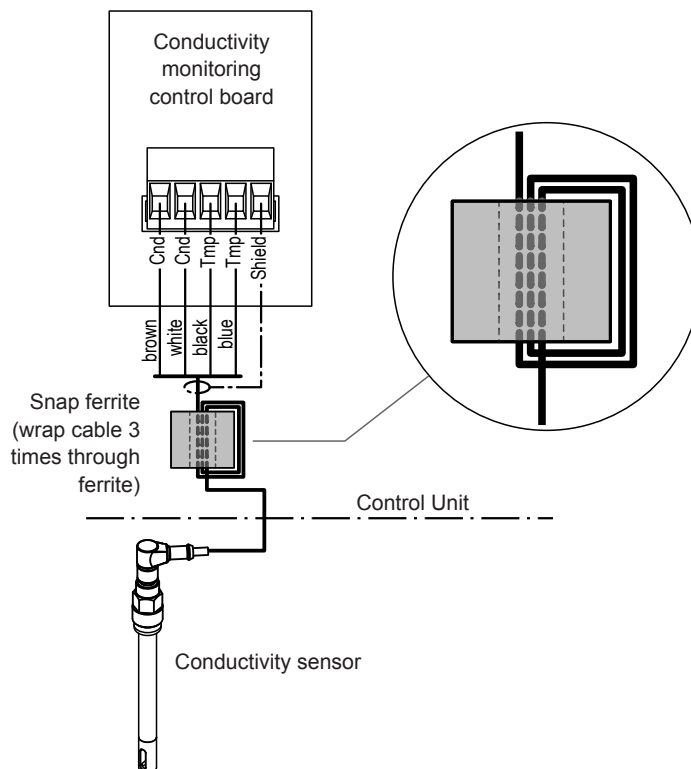

Fig. 4: Wiring diagram conductivity sensor
6. Cut sensor cable to 250 mm (10") longer than required, and connect it to the corresponding terminals on the conductivity monitoring board according to the wiring diagram (see Fig. 4) and the applicable local regulations.
9. Position the snap ferrite as close as possible to the terminal, then wrap the cable through the ferrite 3 times, and close the snap ferrite (see Fig. 4).